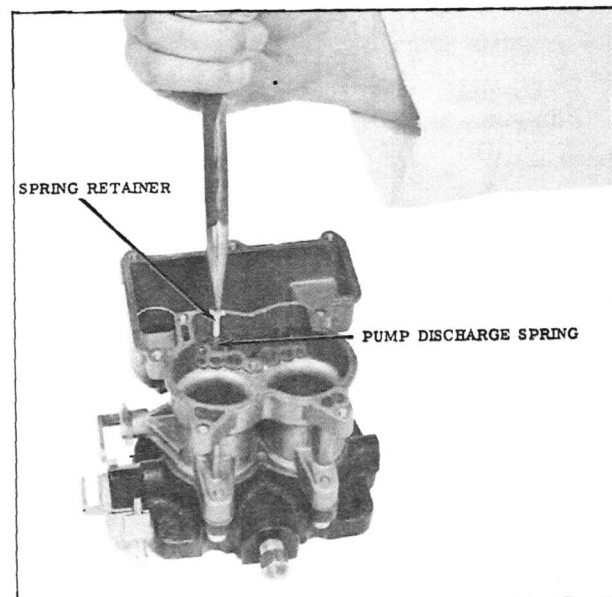

Fig. 23 Pump Discharge Spring and Retainer
5. Using a pair of needle nosed pliers remove the pump discharge spring retainer, (See Fig. 23) then remove the spring and ball.